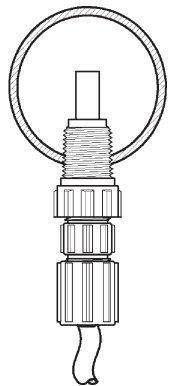

FIGURE 6
- Pipe corrosion can result if dilution at the injection point does not occur rapidly. This problem is easily prevented by observing this simple rule: install injection fitting so that the end is in the center of the flow stream of the line being treated. Trim injector tip as required. See Figure 6. Note: Extended injection assemblies are available for large water lines. Consult your supplier for more information.